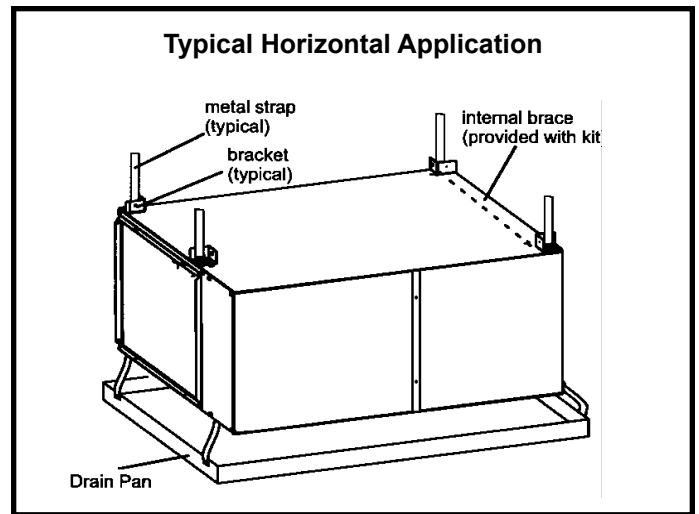
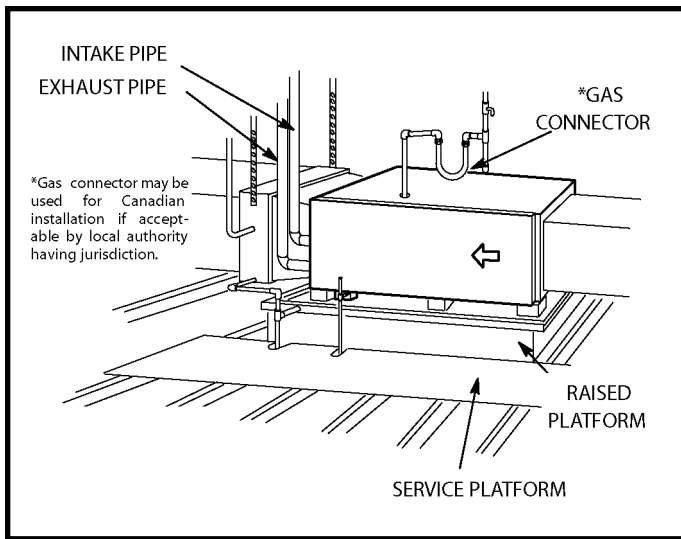

Figure 19
Figure 20
This furnace may be installed in either an attic or a crawl space. Either suspend the furnace from roof rafters or floor joists, as shown in Figure 19, or install the furnace on a platform, as shown in Figure 20. A horizontal suspension kit (51W10) may be ordered from your distributor or use equivalent.
2. Construct a raised wooden frame and cover frame with a plywood sheet. If unit is installed above finished space, fabricate an auxiliary drain pan to be installed under unit. Set unit in drain pan as shown in Figure 20. Leave 8 inches for service clearance below unit for condensate trap.